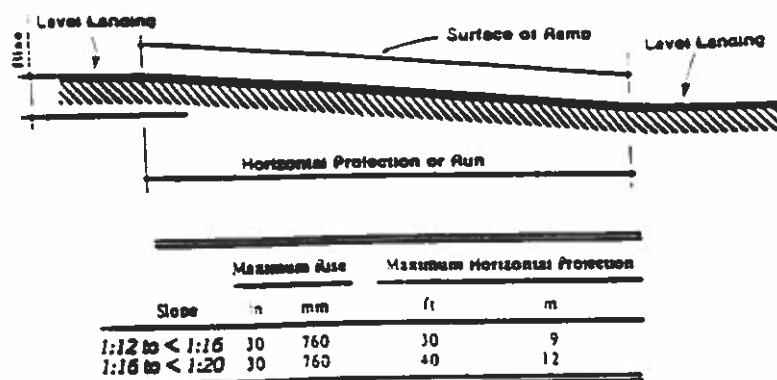

Fig. 16
**4.8.2\* Slope and Rise.** The least possible slope shall be used for any ramp. The maximum slope of a ramp in new construction shall be 1:12. The maximum rise for any run shall be 30 in (760 mm) (see Fig. 16). Curb ramps